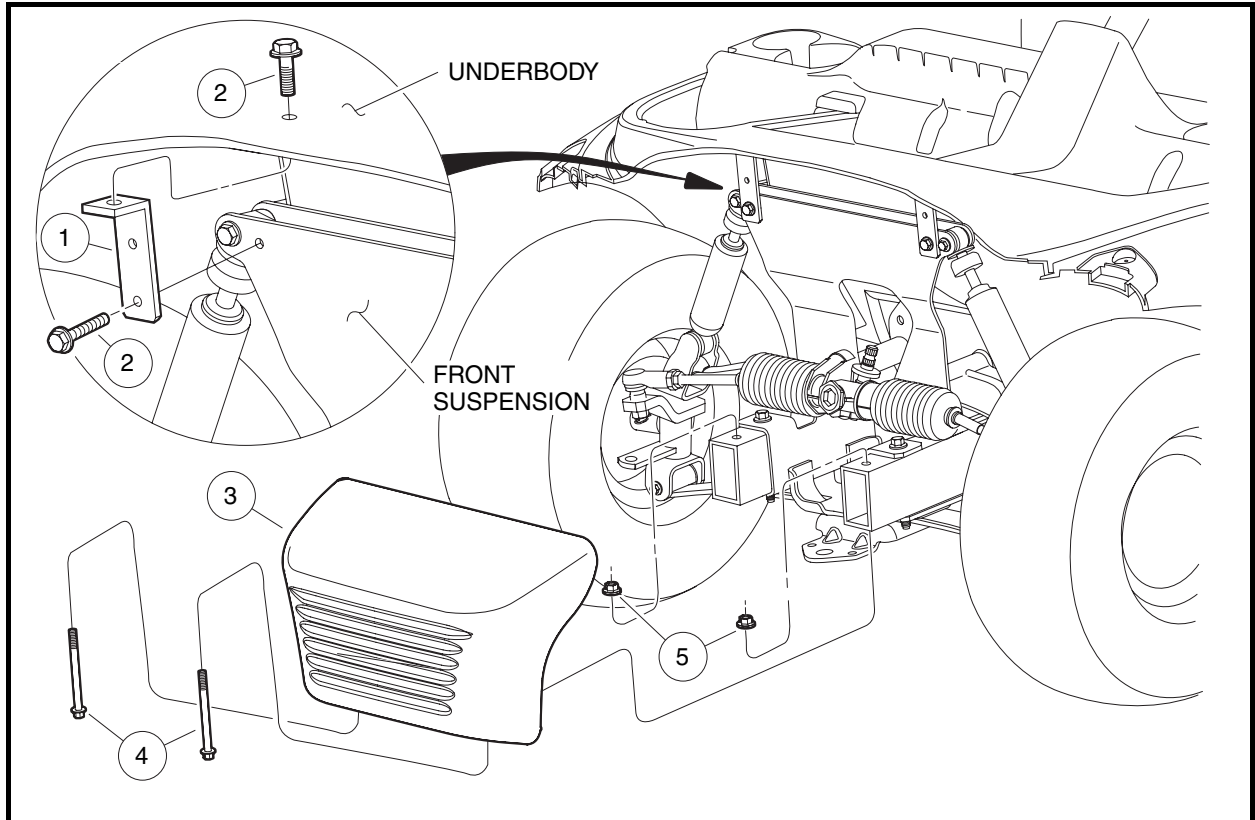

Figure 4-2 Front Bumper
The underbody bracket (1) connects the front suspension to the front underbody (**Figure 4-2, Page 4-5**). Each bracket is secured in place by two taptite screws (2) tightened to 13 ft-lb (17.6 N·m).